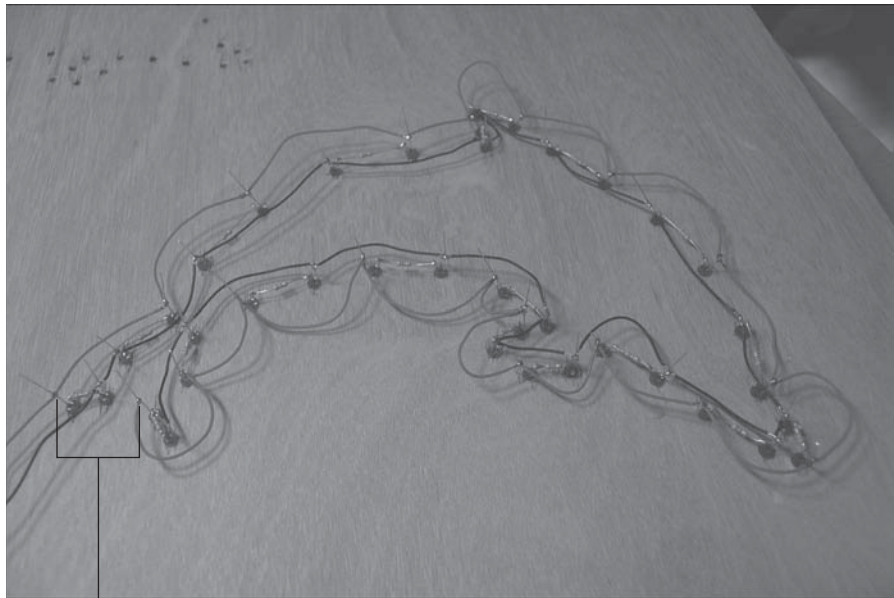

Figure 10-20:
11. **Connect the long leads on every other LED to short lengths of 20 gauge red wire, as shown in Figures 10-20 and 10-21.**
Figure 10-20 shows a gap where no red wire is strung across the tail of the dolphin. One of the LEDs at the tail with a long lead has only one red wire attached; the other has a 2' 20 gauge red wire attached, which you connect to a terminal block on the breadboard in upcoming Step 20.